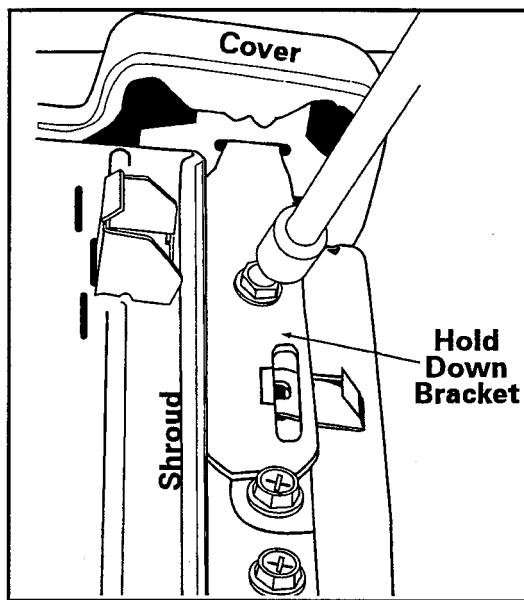

Figure 5-4
- Locate and remove two 5/16" hex head screws securing the two hold down brackets for the top cover, (See *Figure 5-4*).